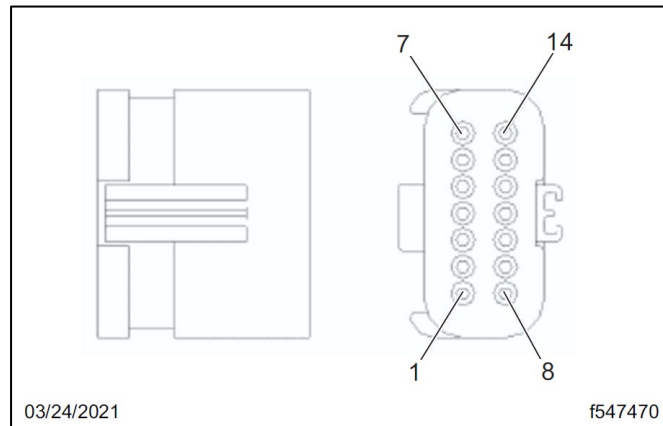

Fig. 2, ENG_CTRL_O_ECU_CM2350_14WAY_1A Pin Configuration
9. Inspect for correct pinning at cavities 10 and 3. See Fig. 2.